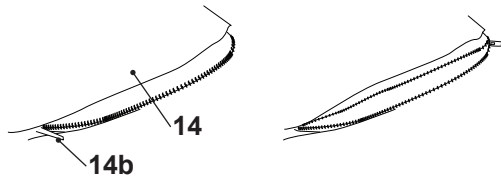

Fig. 9
1. Open the zipper (14b) and empty chippings into a suitable rubbish bag (Fig. 9).